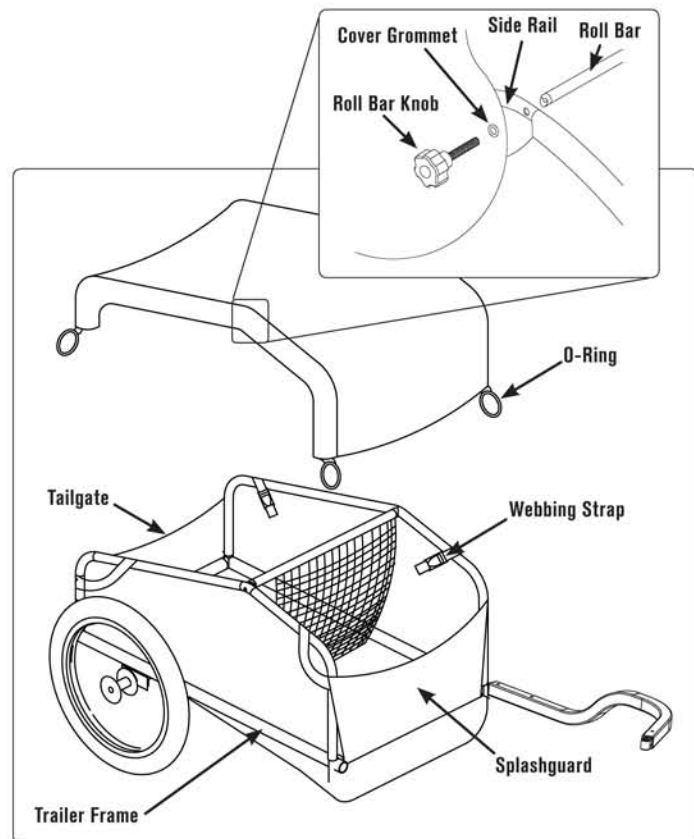

FIGURE 3: NOMAD
1. Loop tie-down straps over corners of side panels and join male buckle sections on straps to female buckle sections inside trailer. **FIGURE 3 & PHOTO 8**
1. Place cover over side panels, with "Nomad" logo at trailer front. **FIGURE 3**
2. Slip one roll bar knob through a grommet on cover. **FIGURE 3**
3. Slide roll bar through casing in divider, and match roll bar end with its corresponding hole on side rail. **FIGURE 3**